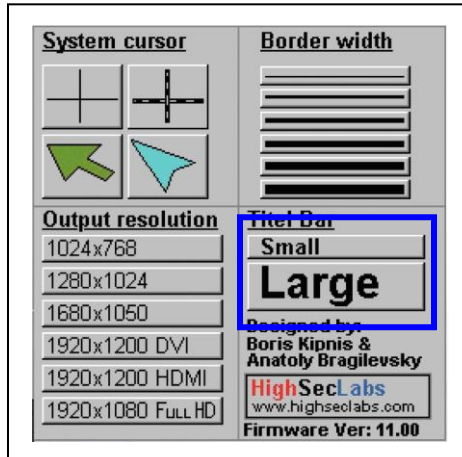

Figure 13 – Title bar / task bar size selection
- a. Change to system mode by clicking on the mouse + or – side keys (see figure 13)